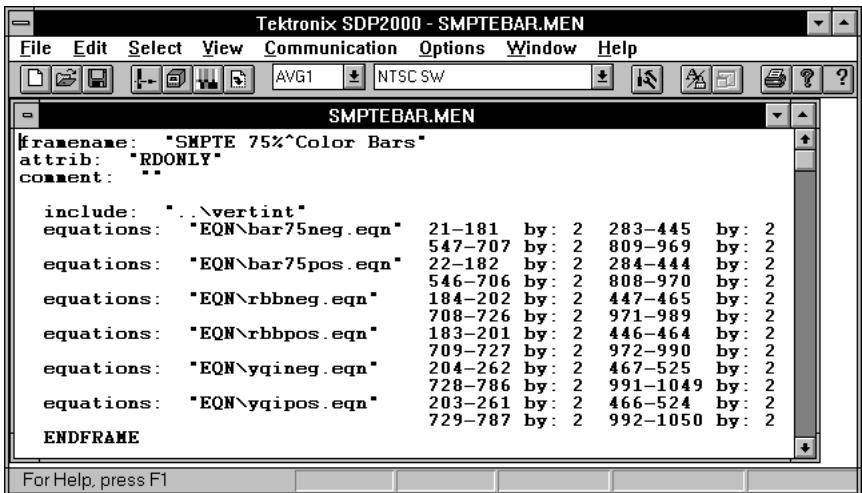

Figure 2: Sample Frame File in the SDP2000 Frame Editor
2. To use an existing file, copy a .men file from the SDP2000 directory and save it under a new file name. Figure 2 shows a .men file for a software modulated signal.